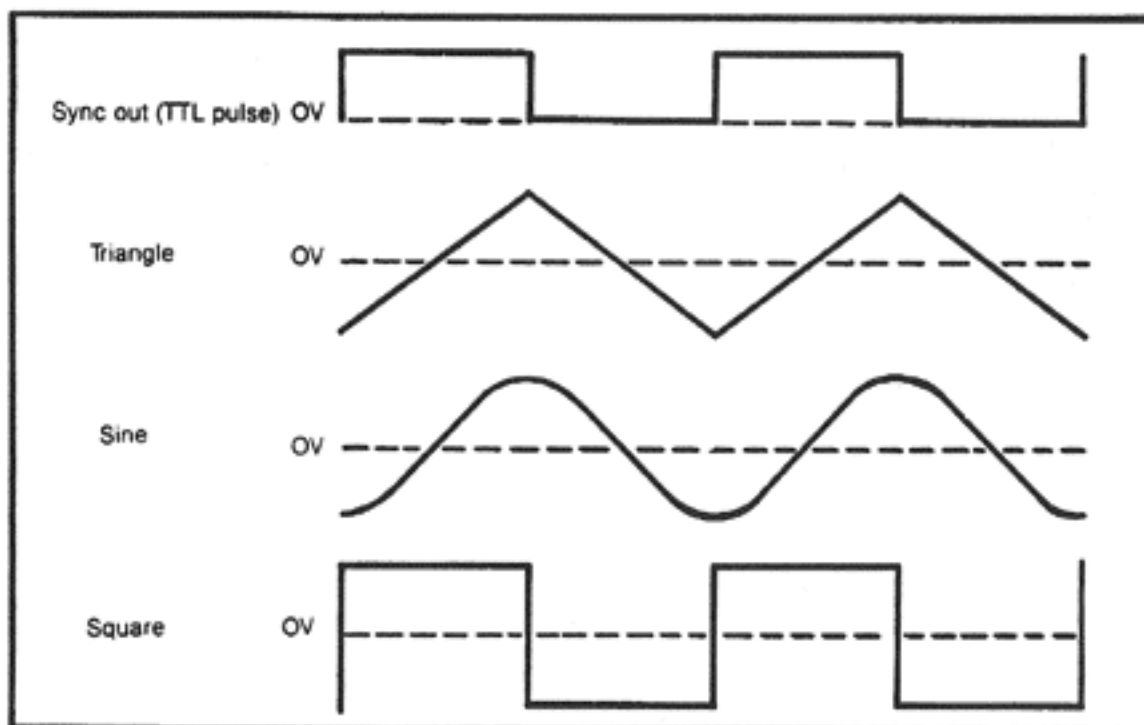

Fig. 3 Output waveforms and phase relationships.
- 5) Select sine, square or triangle waveform output by pressing function button. Fig. 3 illustrates the output waveforms and their phase relationships.